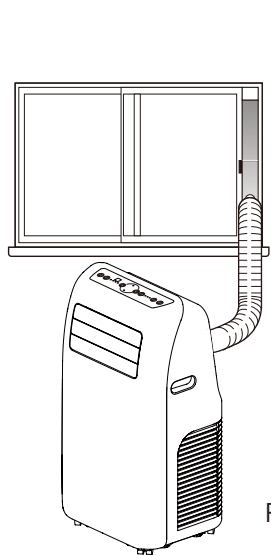
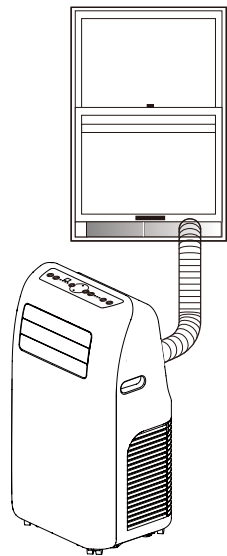

Fig. 5
Fig. 6
- 2.) Insert the air exhaust hose into the window sealing plate, adjust opening width of window so that the window can match with the sealing plate properly, length of the sealing plate is adjustable. (as shown in Fig. 5 and Fig. 6)